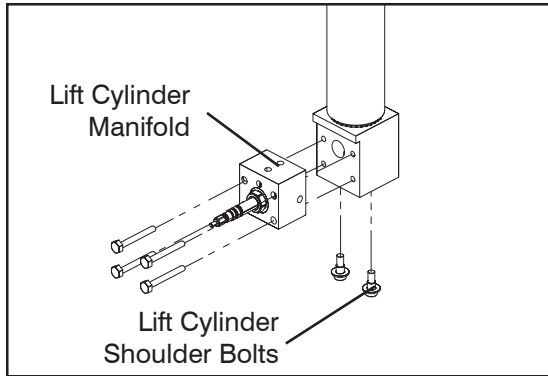

Figure 5-19. Lift Cylinder Manifold and Securing Bolts Removal
- Remove the emergency lowering valve bolts (cylinder manifold) and the lift cylinder shoulder bolts. See Figure 5-19.